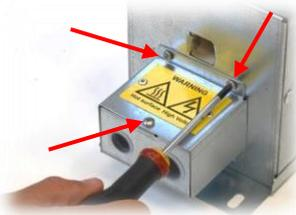

Figure 1
12. remove the cover by unscrewing the 3 screws as shown in the Fig. 1.
20. Close the lip by screwing 3 screws as shown in the Figure 1, max clamping torque is 1 Nm.